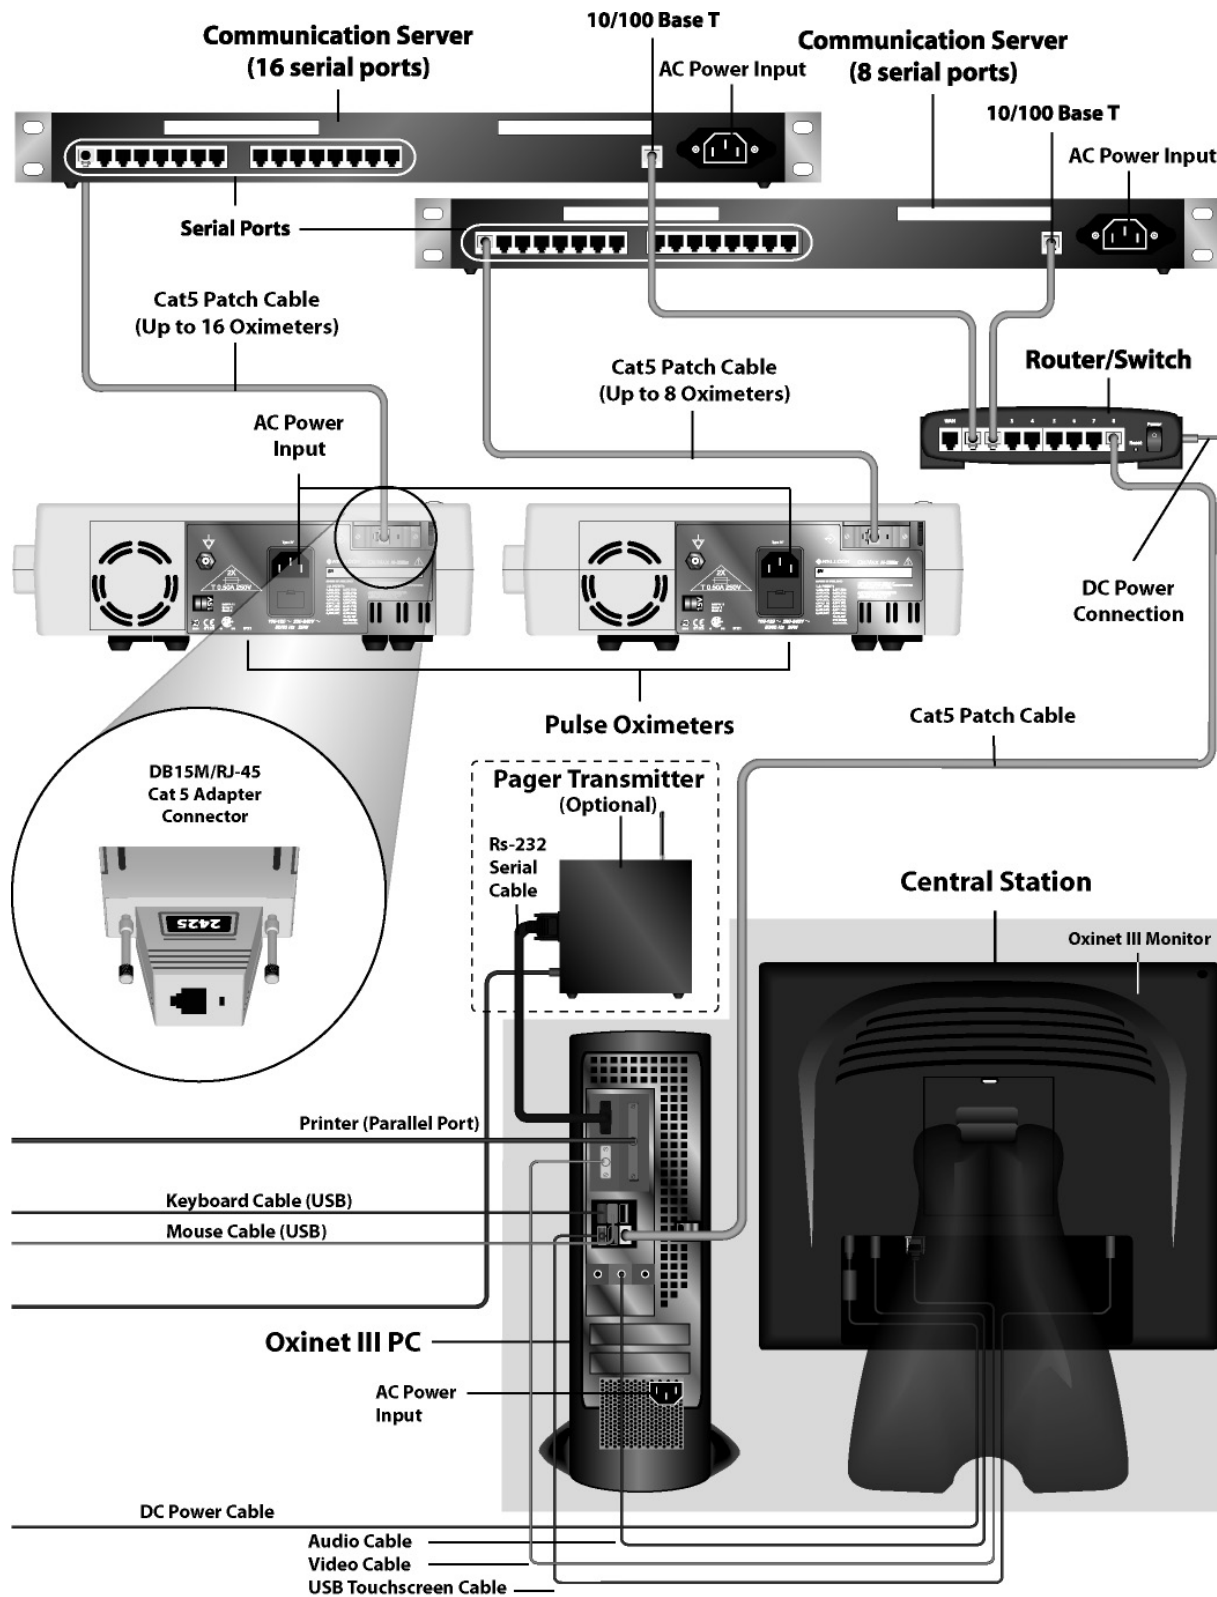
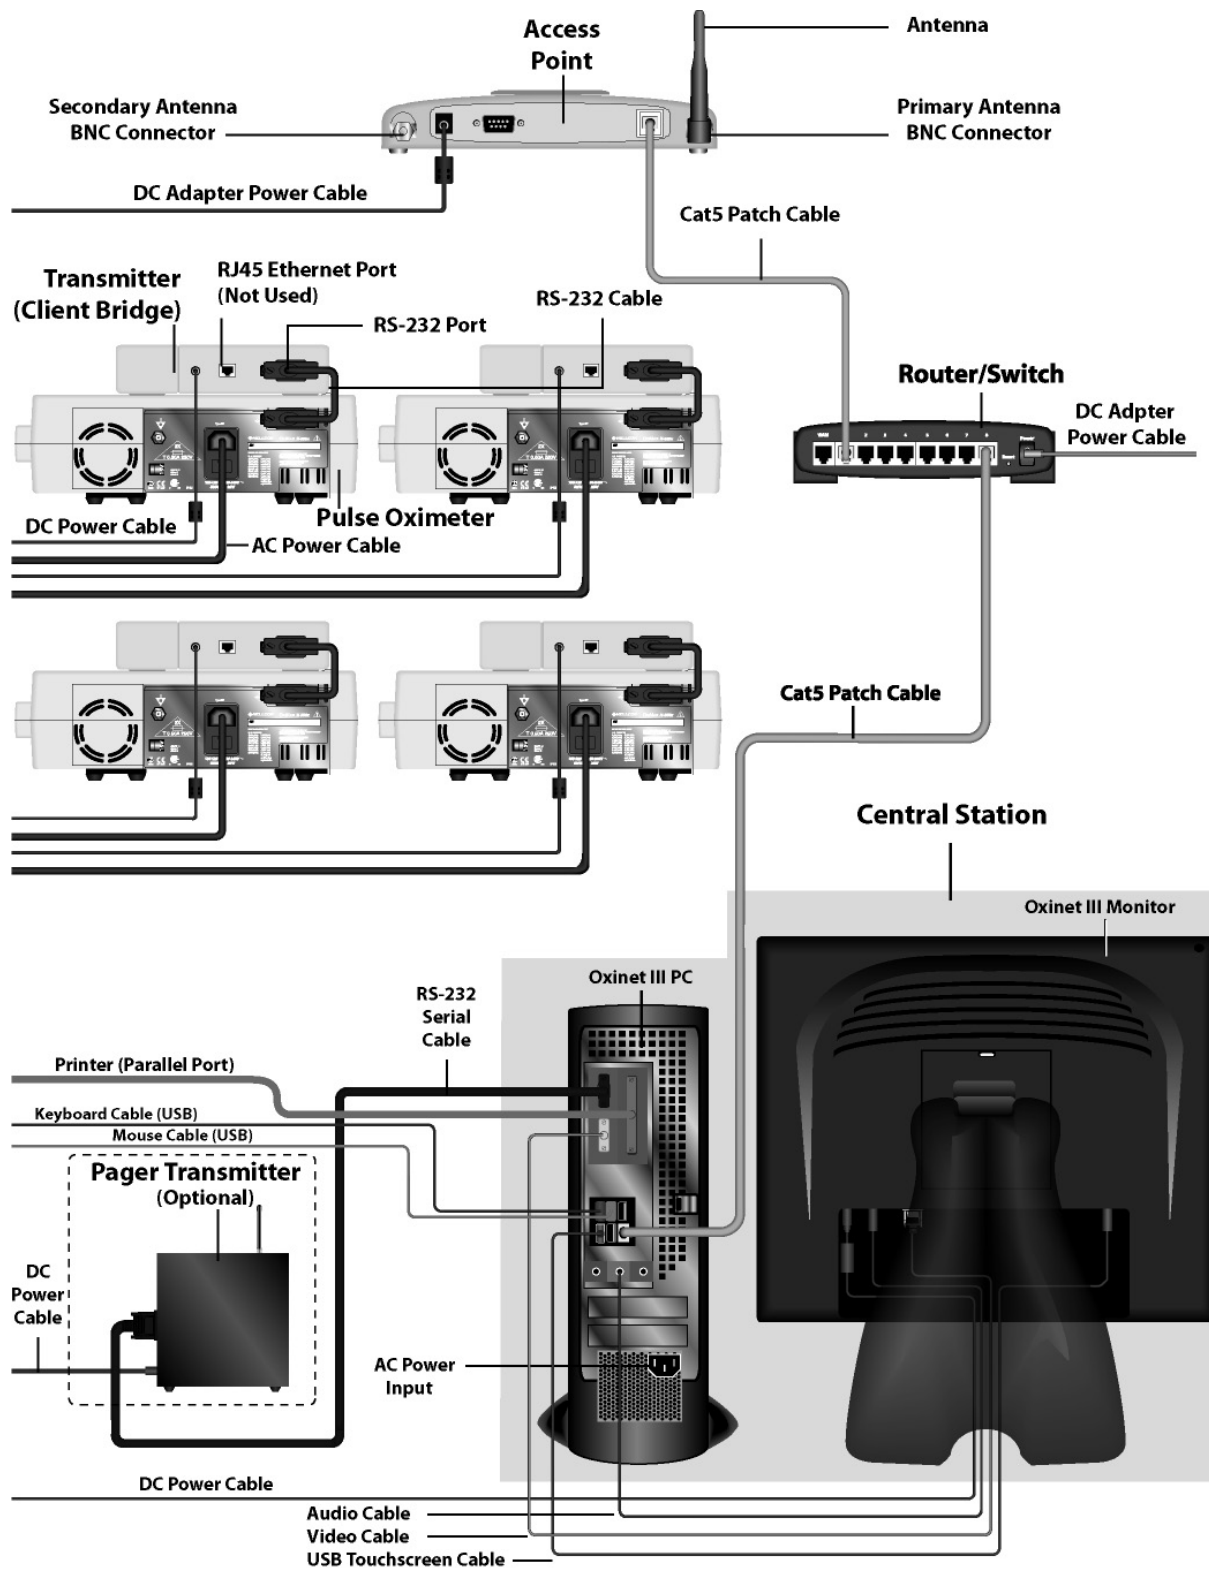

Figure 3: Wired Configuration System Connection
Figure 4: Wireless Configuration System Connection
- 1 Plug a DB15M/RJ-45 Cat5 Adapter connector into the data port of each Oximeter (patient room/bed) as shown in Figure 3.
- 3 Connect a Cat5 Patch cable from the DB15M/RJ-45 connector of each Oximeter to an available serial port on the back of the Communication Server and take note of the room sequence versus the communication serial port number (Figure 3).
- 1 Connect the Cat5 Patch cable from the 10/100 Base-T network port on the Communication Server to any available numbered RJ-45 LAN port on the Router/Switch as shown in Figure 3 (**DO NOT use the port labeled "WAN"**).
Connect a Cat5 Patch cable from any of the numbered RJ-45 LAN ports on the back of the Router/Switch to the network port in the back of the Central Station (Figure 3).
- 2 Connect the antenna for the Pager Transmitter to the BNC connector on the Pager Transmitter (Figure 3).
- 3 Connect the Central Station's antenna as shown in Figure 3.
- 4 Connect one end of the two-ended RS-232 serial cable to the **COM1** serial port of the Central Station, and connect the other end to the **RS232C Interface** serial port on the left side of the Pager Transmitter (Figure 3).
- 5 Connect the DC power cable into the **12V DC** power port of the Pager Transmitter and plug the AC cord into the AC power outlet (Figure 3).
- 6 Connect the mouse and keyboard to the Central Station (Figure 3).
- 1 Connect the printer cable from the printer to the parallel port connector on the back of the PC portion of the Central Station (Figure 3).
- 2 If you are using a USB printer, connect the USB cable to the USB port on the back of the PC portion of the Central Station (Figure 3).
- 1 Place the Transmitter (Client Bridge) near or on top of the Oximeter (Figure 4).
- 2 Connect the Oximeter to the Transmitter using the transmitter's RS-232 cable (Figure 4).
- 3 Connect one end of the AC Y-cord to each unit (Oximeter and Transmitter) and plug the other end into the AC outlet (Figure 4).
- 1 Install a Cat5 cable from the RJ45 jack on the back of the Access Point to any of the numbered RJ-45 LAN ports on the back of the Router/Switch (Figure 4).
- 2 Connect the Access Point Antenna to the Primary Antenna Connector on the back of the Access Point (Figure 4).
- 3 Connect DC barrel connector end of the DC Adapter Power cable to the round DC jack on the back of the Router/Switch and plug the AC plug end into an AC outlet (Figure 4).
- Plug the DC barrel connector end of the DC Adapter Power cable into the round power jack on the access point and plug the AC power cord into an AC outlet (Figure 4).
Connect a Cat5 cable from any of the numbered RJ-45 LAN ports on the back of the router/switch to the network port in the back of the PC portion of the Central Station (Figure 4).
1. Connect the antenna for the Pager Transmitter to the BNC connector on the Pager Transmitter (Figure 4).
2. Connect one end of the two-ended RS-232 serial cable to the **COM1** serial port of the PC portion of the Central Station, and connect the other end to the **RS232C Interface** serial port on the left side of the Pager Transmitter (Figure 4).
- 3 Connect the DC power cable into the **12V DC** power port of the Pager Transmitter and plug the AC cord into the AC power outlet (Figure 4).
- 4 Connect the PC portion of the Central Station to an AC power outlet, connect the DC power to the Monitor Portion of the Central Station (via the DC power cable), and connect the mouse and keyboard to the Central Station (Figure 4).
- 1 Connect the printer cable from the printer to the parallel port connector on the back of the PC portion of the Central Station (Figure 4).
- 2 If you are using a USB printer, connect the USB cable to the USB port on the back of the PC portion of the Central Station (Figure 4).
You may also want to connect a mouse instead of using the touchscreen capability. To connect the mouse and the keyboard to the appropriate ports, see Figure 3 or Figure 4 in the Installation chapter of this manual.